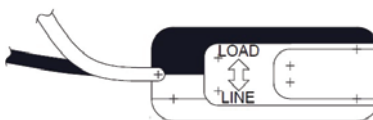

Figure 8 - Leviton Solid Core CTs
- Leviton solid core CTs (Figure 8): In accordance with CT label, the LINE side of CT must face incoming Line. White lead connects to X2 of CT connection (CT1:X2 or CT2:X2). Black or red (solid or striped) lead connects to X1 of the corresponding CT connection (CT1:X1 or CT2:X1).